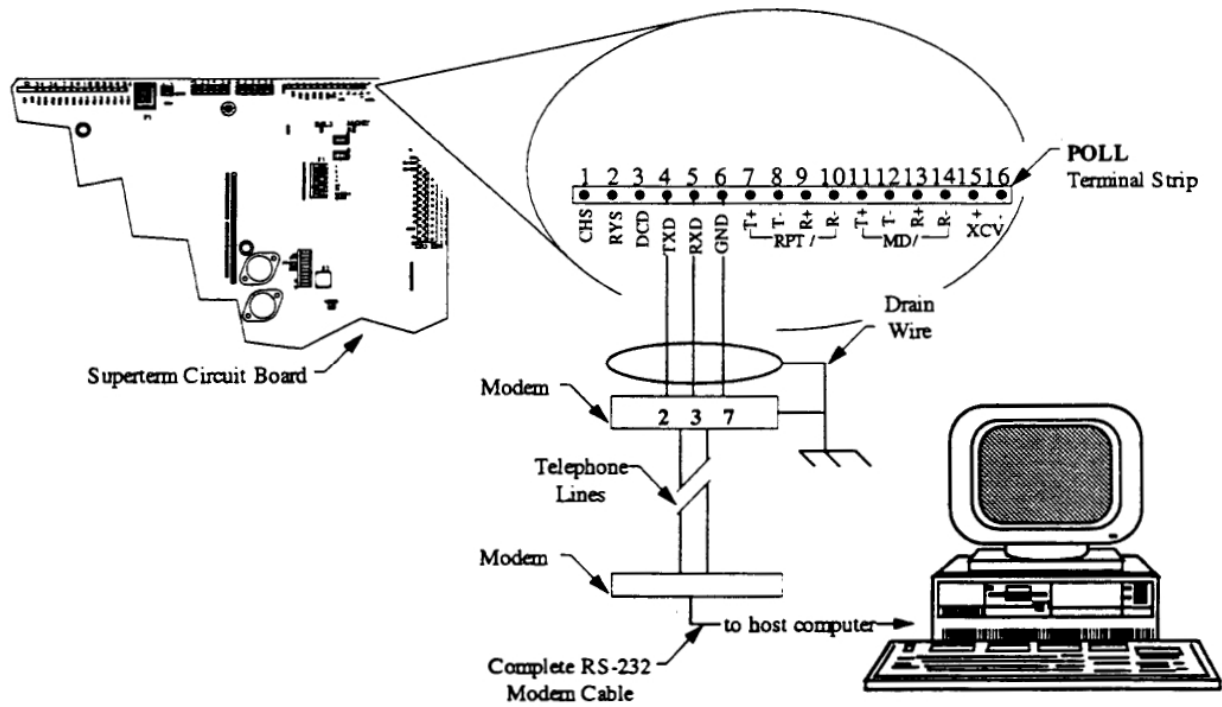

Figure 28 - Superterm-to-Modem-to-Computer Connection
Figure 28 shows a Superterm-to-host computer connection through a modem.
- 1) Connect the **Transmit** pin of the RS-232 device to POLL terminal strip pin number 5 (labeled RxD) (see Figure 28).